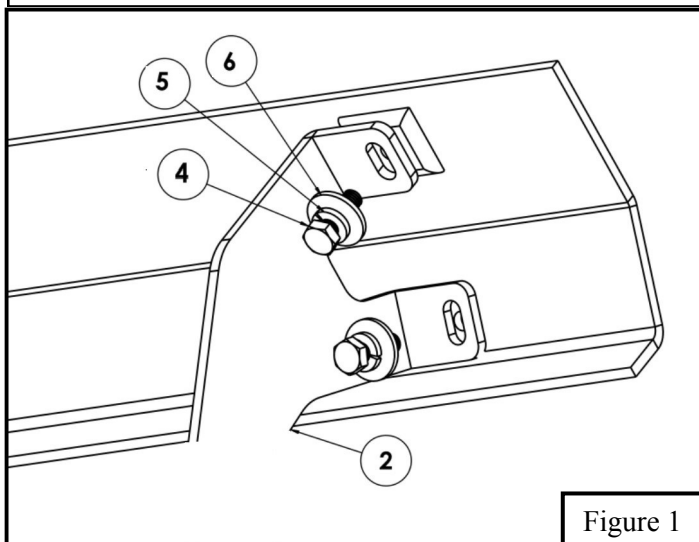

Figure 1
2. Start installation on either side of the vehicle. Locate mounting locations with factory threaded holes with caps covering them. Remove factory caps from threaded holes, they will not be used again. Locate (1) Front Mounting Bracket and loosely install it to the front mounting location on the rocker panel using (2) Long M8 hex head cap screw, (2) M8 split lock washer, and (2) M8 flat washer (Items 4-6). Locate the Mounting Bracket B (Item 3) and loosely secure in the correct mounting locations on the rocker panel. Loosely install using the provided M8 hardware (Items 5-7). **See Figure. 1 and 2.**